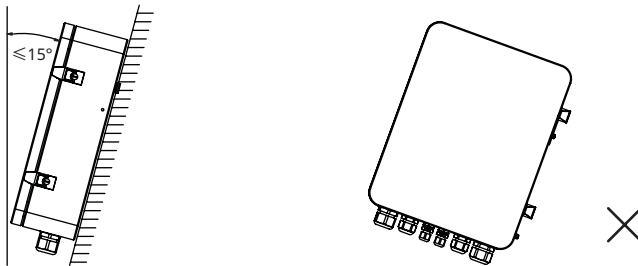

Figure3.3.1-1
- The SEC1000 must be installed vertical or with a backward tilt less 15°.No sideways tilt is allowed.The connection area must point downwards.Refer to Figure 3.3.1-1.
- To allow dissipation of heat,and for convenience of dismantling,clearances around the SEC1000 must be no less than the values, refer to figure3.3.1-2.